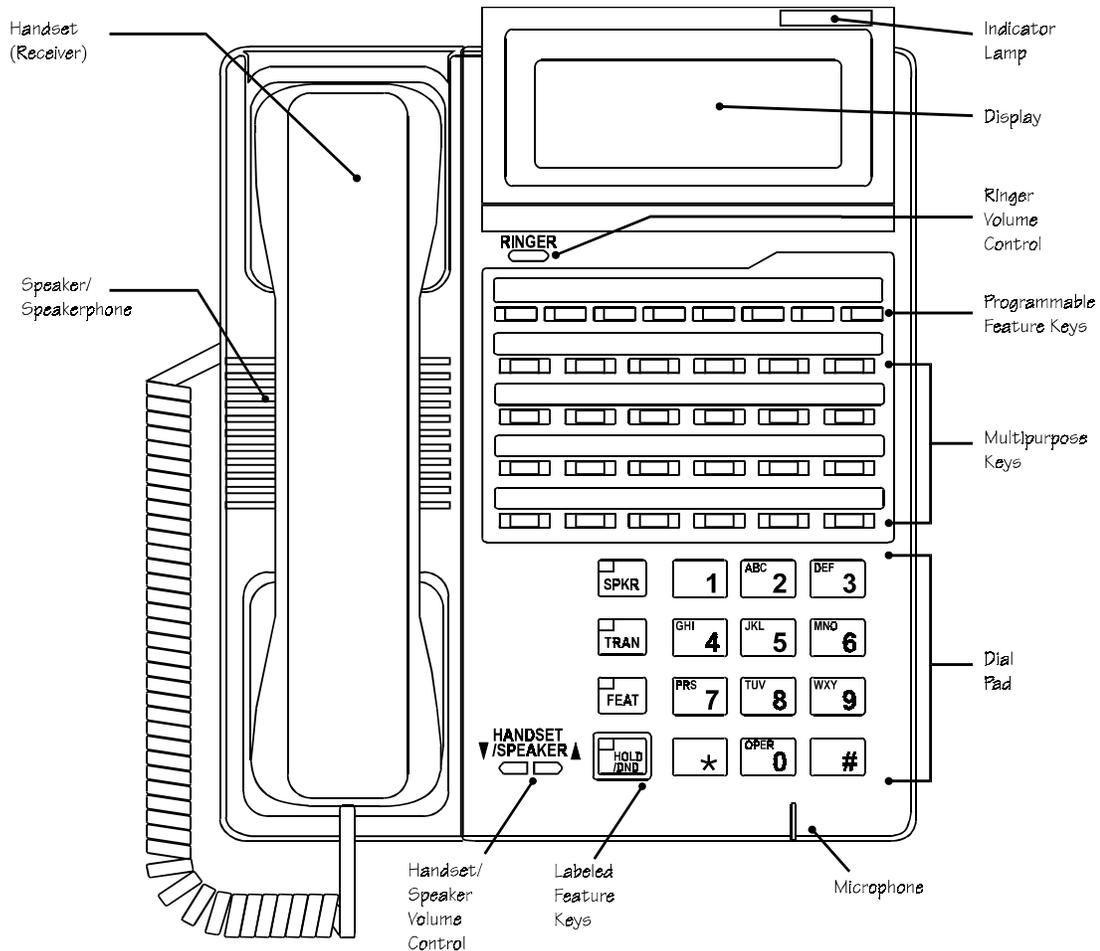

FIGURE 13 DIGITAL TELEPHONE COMPONENTS
**Digital Telephone Components** Figure 13 points out the components of ADIX digital telephones. The table that follows lists certain components and a brief description of their function.